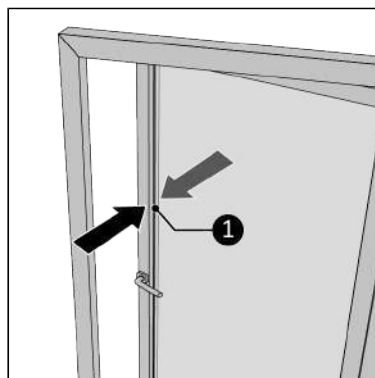

Figure 85.
2. Measure the width of the outward turning frame of the window (Figure 85, pos. 1).